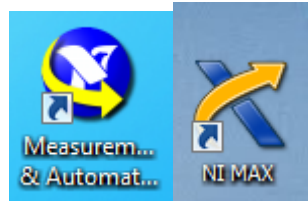

Fig 16
- b) To download file to Power Supply press PC->PS button (31).
1. Open NI MAX program from desktop. Refer to Fig 16.